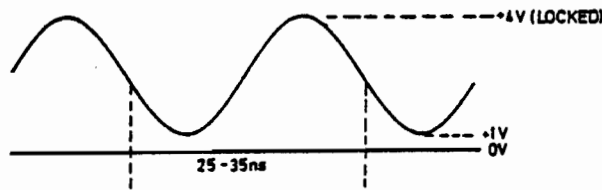

Fig. 5 VCO output.
34. The VCO output signal is a sinewave in the frequency range 33 MHz to 40 MHz as shown in Fig. 5.